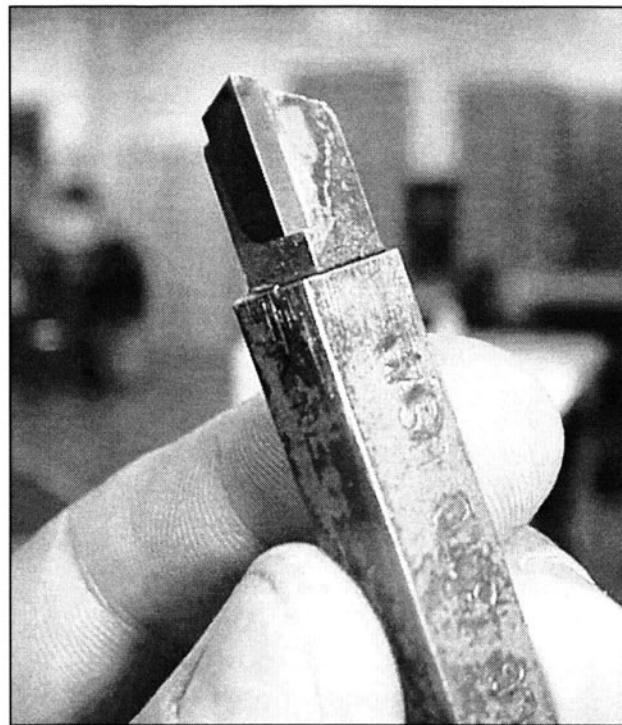

FIGURE 7-25 A left hand brazed carbide lathe tool is ground as a right hand tool. Tools ground like this resist chipping and are easy to sharpen.
33. *Use a left hand lathe tool to make a right hand lathe tool. (See Fig. 7-25)*